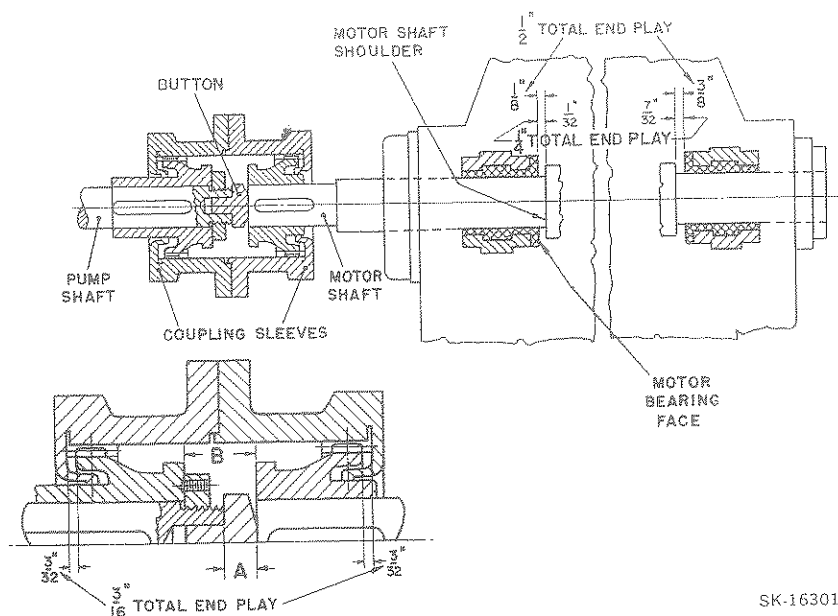

Fig. 9—Arrangement For Limiting Motor-End-Float
f. Move the motor as a unit toward the pump until the end of the motor shaft butts up against the button in the end of the pump shaft (see Figure 9). The distance from the end of the pump shaft to the top of the button has been predetermined by Worthington Corporation and will control the gap to be left between coupling halves.